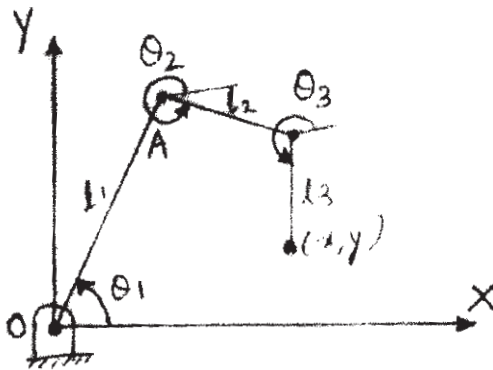

Fig 6 (b)
- b) A planar 3R manipulator as shown in fig 6 (b), has link lengths $l_1 = 100\text{mm}$, $l_2 = 80\text{mm}$ and $l_3 = 60\text{mm}$. Determine it's reachable workspace and state whether point (200, 100) is reached with $\theta_1 = 40^\circ$. If yes, what are the values of θ_2 and θ_3 ? If no, what should be the minimum value of θ_1 so that the point will be reached by the manipulator? [6]